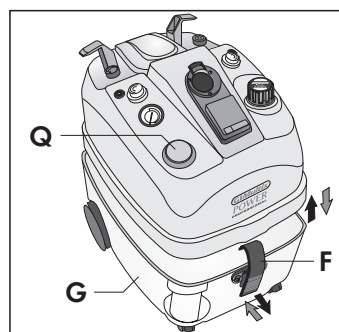

Fig. 6
- Remove the cap from the detergent tank (Q). **(Fig. 6)**
- Put the tank cap (Q) back into place.